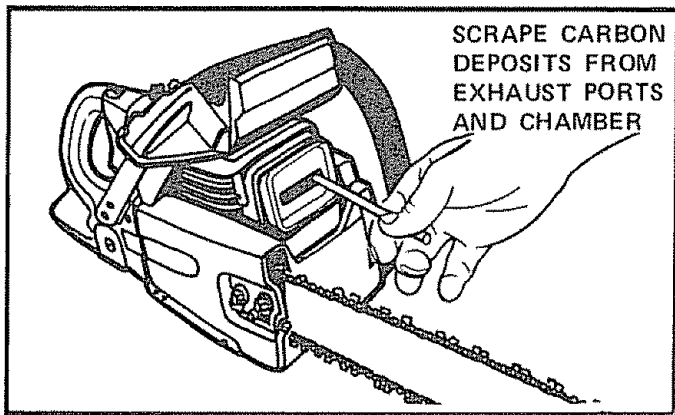

Figure 44
- Scrape the carbon deposits from the exhaust ports and surrounding exhaust chamber using a hardwood stick. Figure 44.